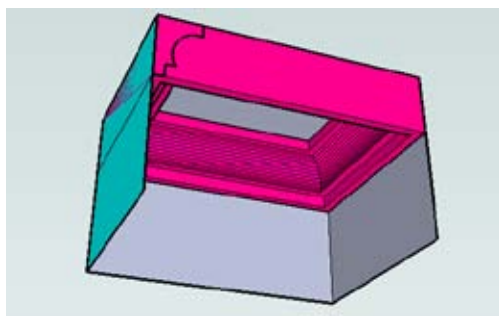

Figure 2-30
- Hide or erase the floor and some walls, and look up into the room. In Figure 2-30, you can see the intact walls and ceiling, and the Follow Me faces creating a molding.